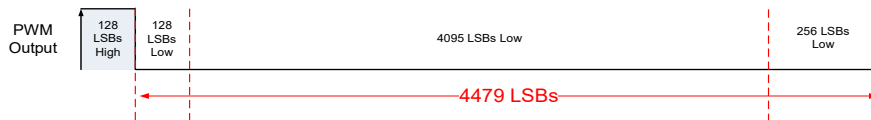
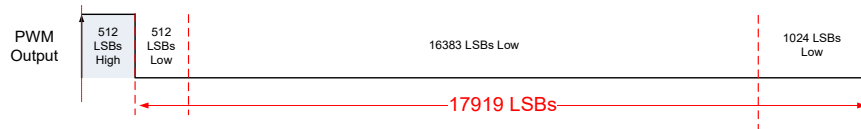

Figure 34. 12-bit PWM signal in Diagnostic low mode
Figure 36. 14-bit PWM signal in Diagnostic low mode
- Diagnostic low mode, see Figure 34 and Figure 36